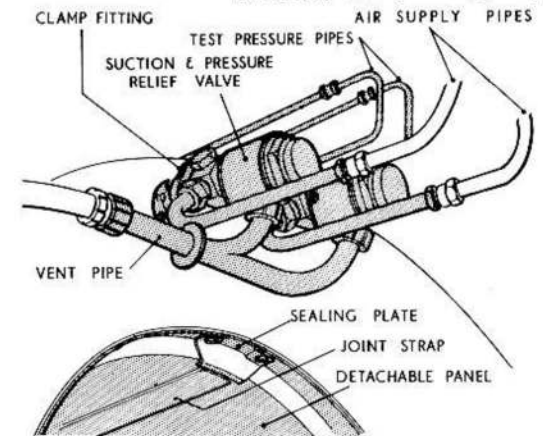

FIG. 19 SUCTION AND PRESSURE RELIEF VALVE
- (2) Remove the two sealing plates (fig. 19) at the top and bottom joints at the rear end of the detachable panels.
- (3) Remove one of the tank supporting panels by removing the 19 bolts from the rear end and 27 bolts from the forward end of the tank panel.
- (4) Ease the tank out of its bay and remove it from the aircraft.
- (5) Check that there are four sealing washers to each tank and that there are none left in the tank bay. As soon as possible, blank off all orifices in the tank to prevent the ingress of dirt or moisture. (If the tank is to be re-installed, put back the sealing washers removed earlier, so that there are two to each orifice. If a new tank is to be fitted, use existing sealing washers provided they are serviceable).